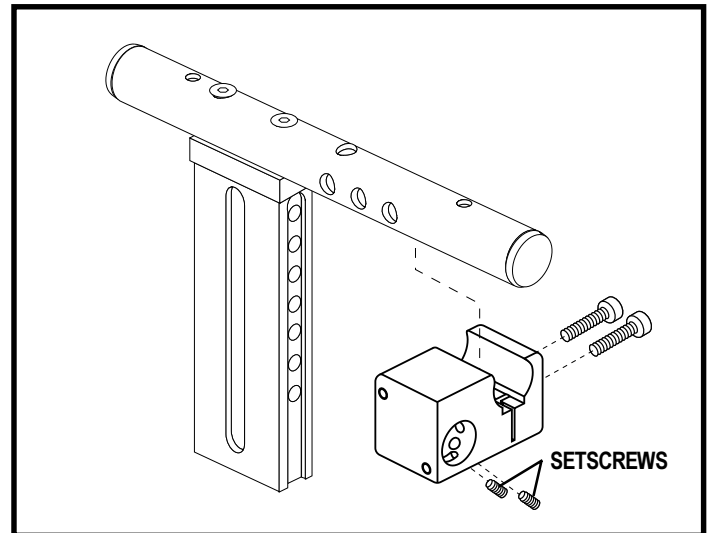

Figure 13. Controller Mount
6. Loosen the setscrews on the controller mount. See figure 13.
3. Loosen the setscrews on the controller mount. See figure 13.